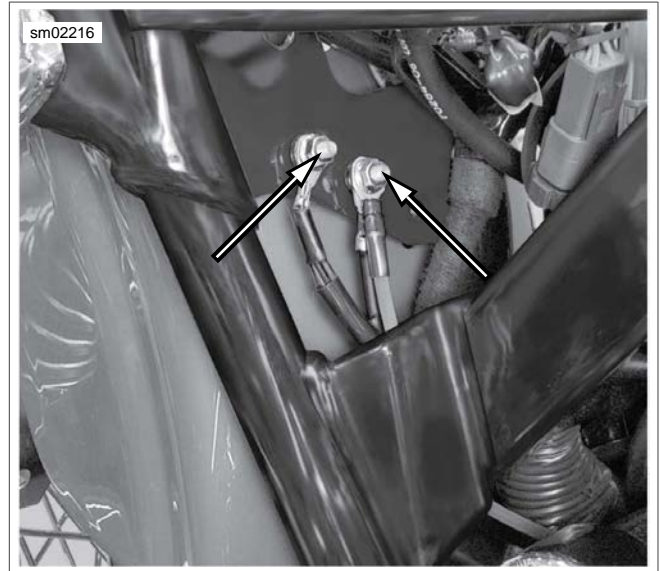

Figure 7-78. Vehicle Ground Studs
16. See Figure 7-78. Remove ground wires from studs on frame.